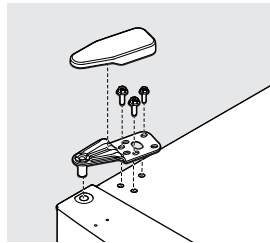

Figure 12
13. Attach the top hinge using a 5/16 in. socket, and then place the top hinge cover (some models) on the unit (see Figure 12).